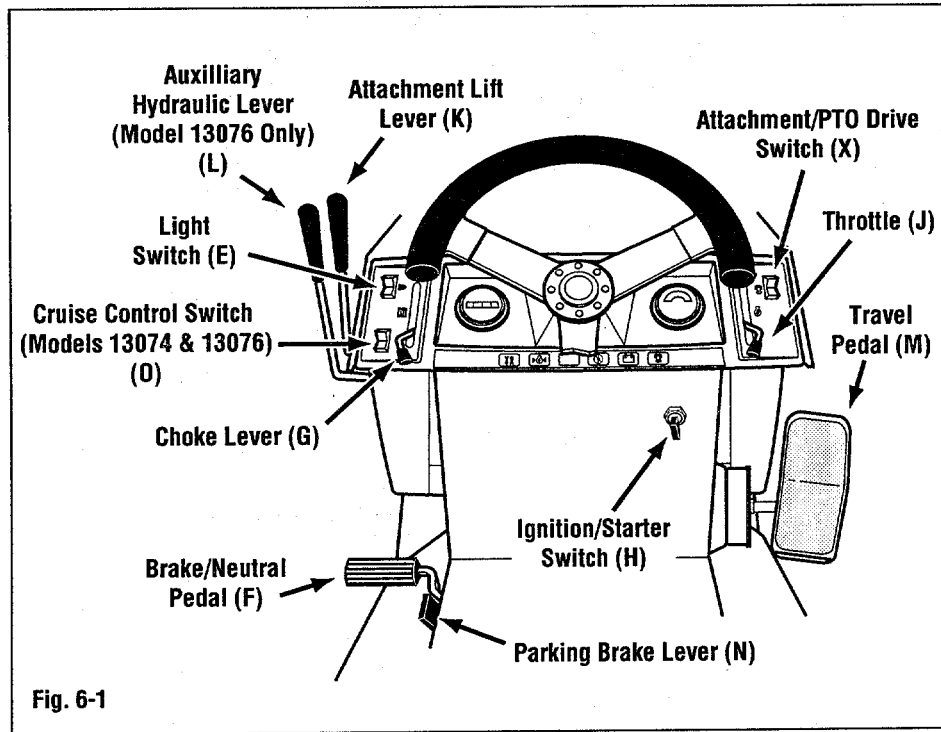

Fig. 6-1
1. Move the attachment/PTO drive switch (X, Fig 6-1) to "OFF". The starter will not activate unless this switch is off.
2. Press brake/neutral pedal (F) down.
3. Move choke lever (G) up. Move the throttle (J) up halfway.
1. Turn attachment/PTO drive switch (X, Fig. 6-1) to "OFF".
2. Move throttle (J) down to  (Slow). Lock brake/neutral pedal (F, Fig. 6-1 and 6-5) down by pulling parking brake lever (N) to the rear. (See Fig. 6-5, page 19.)
4. Turn ignition/starter switch (H) to off. Remove ignition key.
Start the engine as instructed on page 16. With the engine running at full speed, (fast) engage and disengage attachment/PTO drive switch (E, Fig. 6-1) 10 to 15 times. Perform this step before initial use and after extended storage.
Pull attachment lift lever (K, Fig. 6-1) back to lift attachment. Push lever forward to lower attachment. When lever is released, it will return to neutral, except when pushed fully forward to "FLOAT" position.